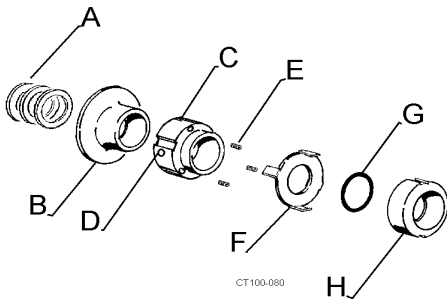

Figure 26 - Type 1 Seal Components
3. Slide tabbed washer (Figure 26, item F) over impeller shaft and engage tabs of washer into notches on outside of rotary seal. (Figure 26, item F and H).
4. Install three seal springs into holes in spring retainer (Figure 26, item C and E). Hold springs in place with RTV silicone sealant.
5. Slide spring retainer over impeller shaft until slots in spring retainer engage drive tabs on washer and springs rest against washer (Figure 26).
7. Lock spring retainer in place by tightening set screws (2) (Figure 26, item D).
8. Install deflector onto impeller shaft (Figure 26, item B).